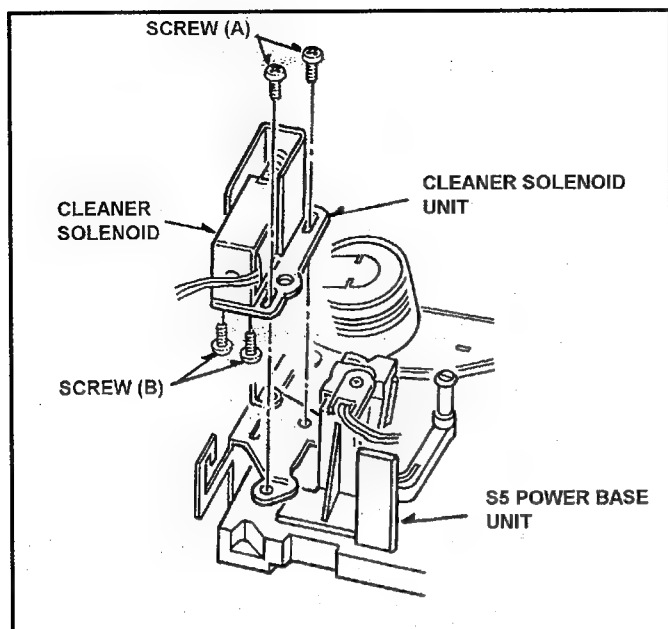

Fig. 10-13-1 Removal of Cleaner Solenoid
4. Unscrew the **2 screws (A)** and remove the Cleaner Solenoid Unit as shown in Figure 10-13-1.